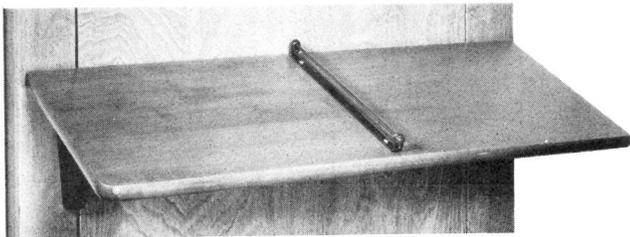

Fig. 7—KS-6536 Directory Fastener
**3.02** Locate the fastener in the center of shelf or table 1/2-inch from front edge. Attach the fastener with No. 8 by 3/4 pan head screws. See Fig. 7, 8, and 9.